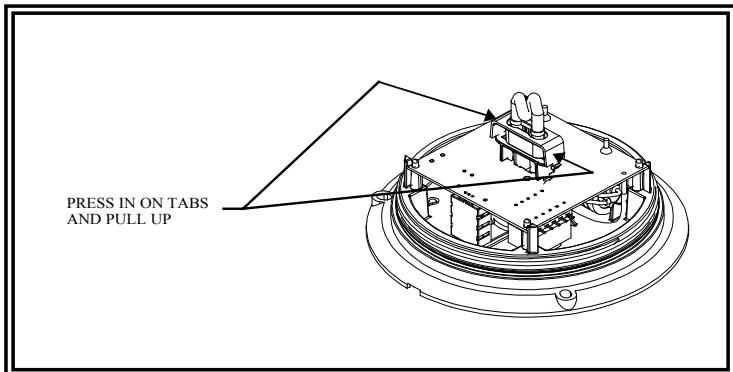

FIGURE 4
Most strobe failures can be traced to wiring or battery problems. Check all wiring and connections to insure the correct voltage is reaching the strobe light. If the strobe operates erratically or stops completely, and the wiring is not at fault, the flashtube is probably worn. To replace it, remove the outer dome. Unscrew and remove the inner lens. Remove the flashtube by squeezing on the tabs on the side of the tube holder and pulling up. Plug in the new tube assembly. See Figure 4. Note: The connector is keyed to ensure proper orientation. Make sure that the three contacts on the bottom of the flashtube are straight. Do not force. If trouble continues, return product to your local dealer for warranty replacement, or call ECCO Customer Service for assistance (800) 635-5900.